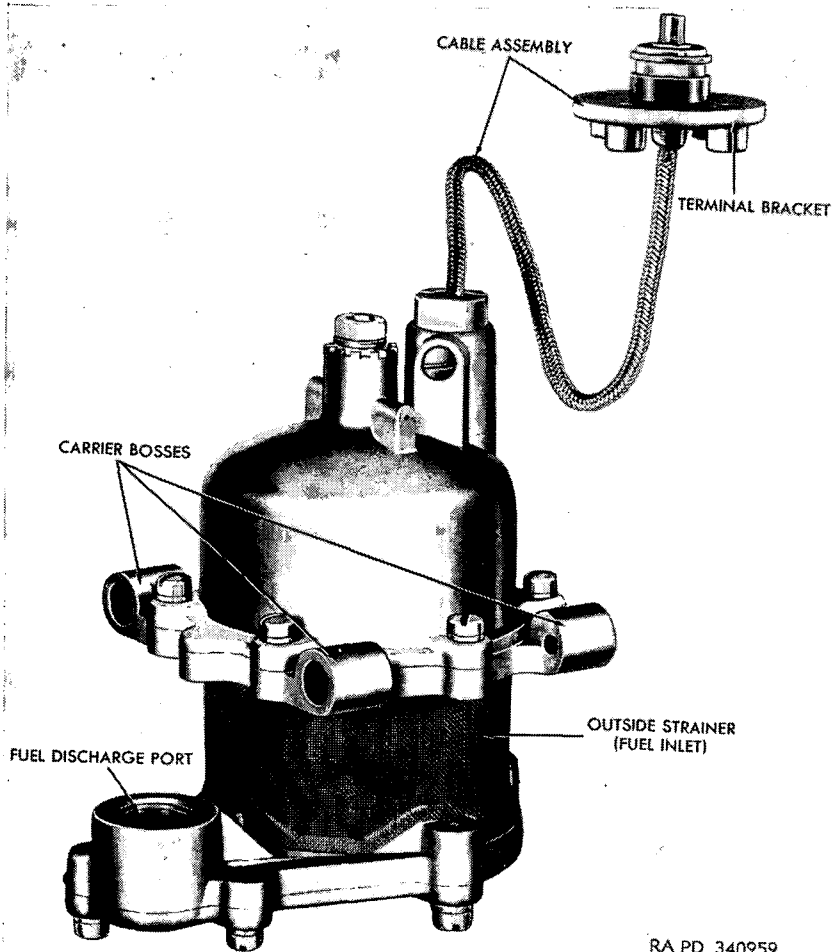

Figure 72. Typical Carter electric fuel pump.
a. *General.* Carter electric fuel pumps (fig. 72) are of the centrifugal type. To operate properly, the pump must be located so that